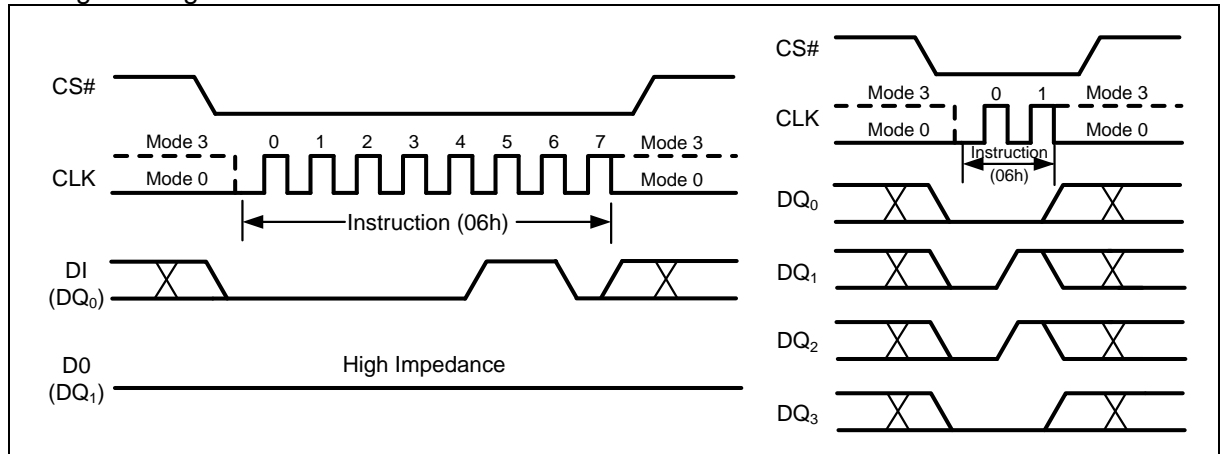

Figure 13 Write Enable Instruction for SPI Mode (left) or QPI Mode (right)
The Write Enable (WREN) instruction (Figure 13) sets the Write Enable Latch (WEL) bit in the Status Register to a 1. The WEL bit must be set prior to every Page Program, Quad Page Program, Sector Erase, Block Erase, Chip Erase, Write Status Register and Erase/Program Security Sectors instruction. The Write Enable (WREN) instruction is entered by driving CS# low, shifting the instruction code “06h” into the Data Input (DI) pin on the rising edge of CLK, and then driving CS# high.